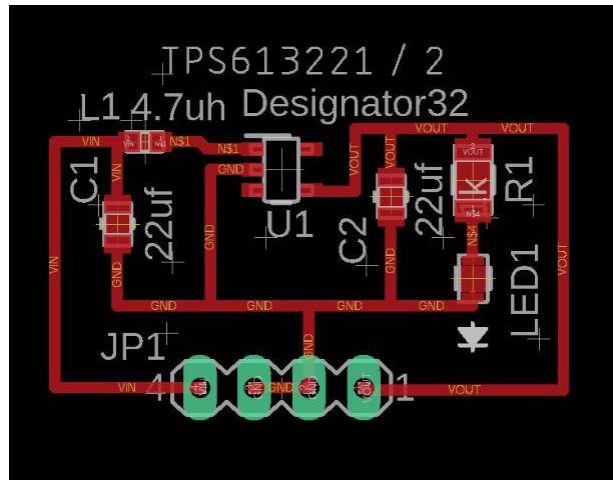

Figure 23: Board window showing final board layout.
3.22: Using the move and rotate tool you can now move the names and labels, so they are legible. Figure 23 shows the result of this operation (click on the cross hair for each name and label).